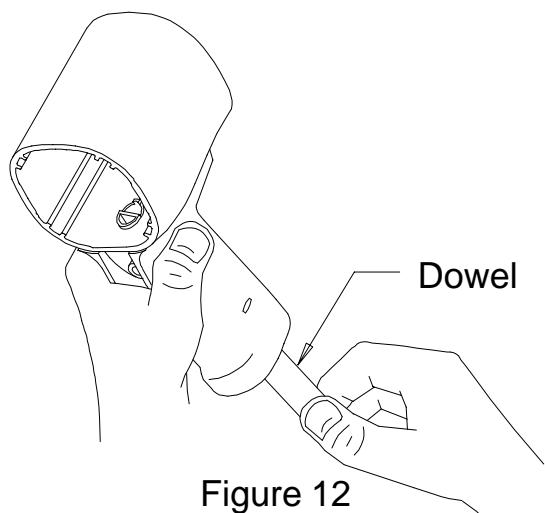

Figure 12
Use a wooden dowel to push the Reverse Valve up through the handle until the top of the Reverse Valve is flush with or slightly above the bottom of the motor bore in the Housing (20). See Figure 12.